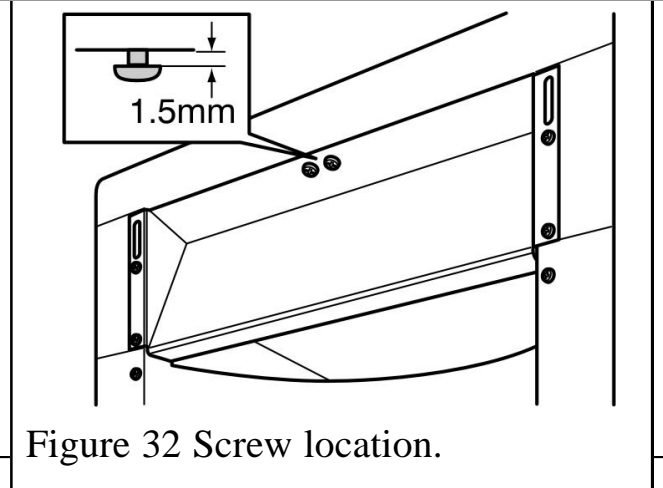

Figure 32 Screw location.
2. Insert two black self tapping screws into the holes at the top of the spillage plate leaving about 1.5mm gap between the underside of the screw head and the spillage plate (See figure 32)